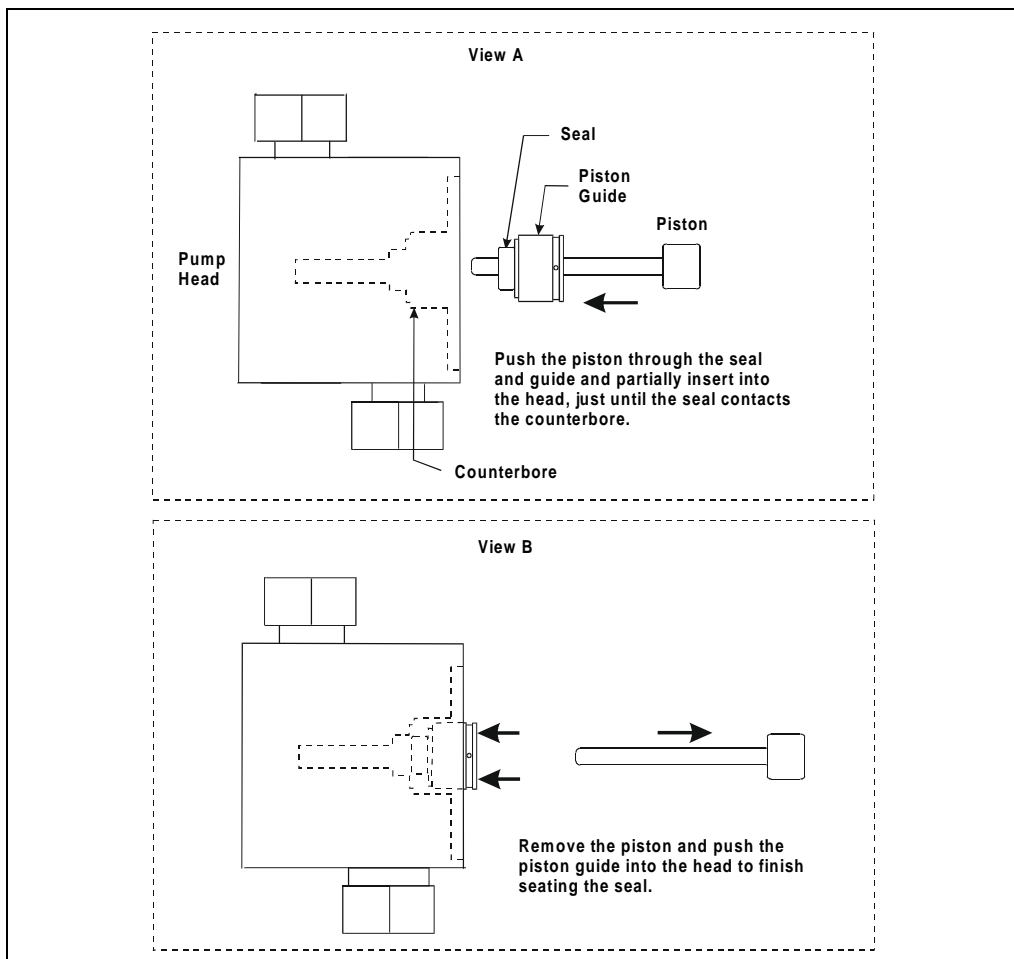

Figure 5-5. Installing the Piston Seal
- a. Push the piston through the piston guide and the new seal. Then insert the piston, piston guide, and seal into the pump head just until the seal makes contact with the bottom of the counterbore (see Figure 5-5, View A).
- b. Hold the piston guide and seal in place and remove the piston from the head (see Figure 5-5, View B).